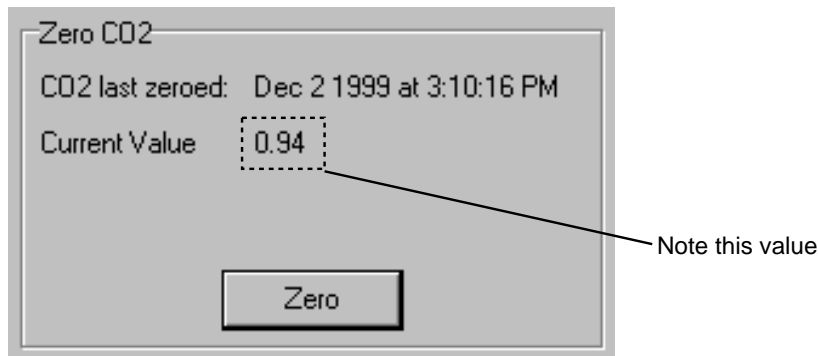

Figure 4-2. Note value of  $Z_{CO_2}$ , shown as Current Value.
5. Observe the CO2 concentration and wait for it to stabilize (typically 1 minute). Also, note the present value of  $Z_{CO}$  (Figure 4-2).
6. When the reading has stabilized, click **Zero** to set the CO2 zero. After a brief delay, the displayed CO2 value should be fluctuating around zero. Check the resultant value of  $Z_{CO_2}$  shown on the *Zero CO2* page (Figure 4-2). It should be near 1 (typically between 0.85 and 1.1). This value will steadily increase as the internal chemicals lose effectiveness.